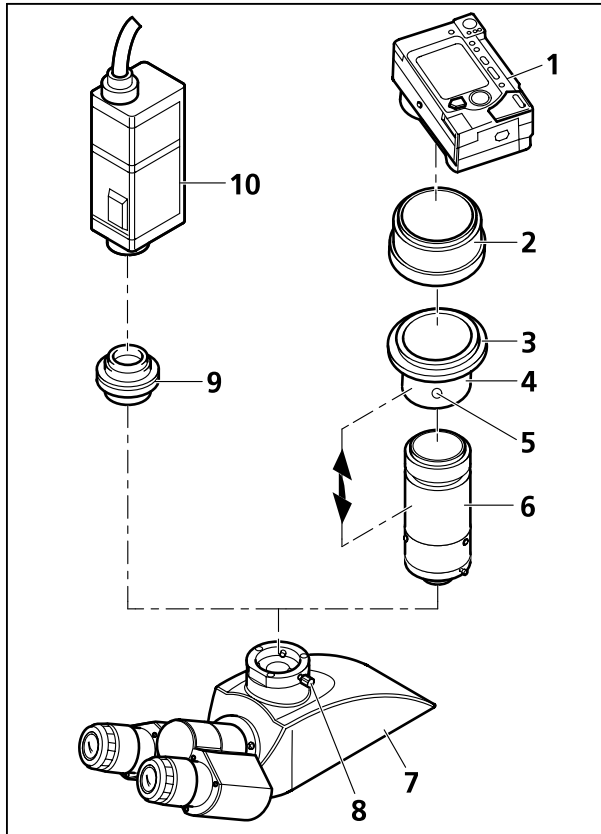

Fig. 32 Installing a camera
- First, install the phototube (Fig. 32/7), if required (see section 3.5.1).
- Loosen the clamping screw (Fig. 32/8) and remove the dust cap from the phototube.
- Sliding mount (Fig. 32/4), thread adapter ring M37/52 (Fig. 32/3) and lens mount (Fig. 32/6) are supplied pre-assembled as **Digital Camera Adapter P95 M37/52x0.75**. The opposite drawing shows this unit dismantled. Furthermore, you may unscrew the M37/52 thread adapter (Fig. 32/3) from the sliding mount (Fig. 32/4) (not shown) so that you can also mount cameras with M37 thread.
- Mount the adapter ring (Fig. 32/2) (supplied with the camera) to the camera (Fig. 32/1) (see the operating instructions of the camera).
- Screw the unit consisting of sliding mount (Fig. 32/4), thread adapter ring M37/52 (Fig. 32/3) and lens mount (Fig. 32/6) into the adapter ring (Fig. 32/2).
- Insert the camera with adapter into the phototube as far as it will go. Align it and fasten it with the clamping screw (Fig. 32/8).
- Depending on the microscope equipment or the camera used, it may be necessary to optimize the distance between camera lens and lens mount (Fig. 32/6) (see double-headed arrow). This will be necessary in particular, if it is impossible to obtain an unvignetted image in any of the zoom positions of the camera lens. To this end, adjust the camera as follows:
- Loosen the set screw (Fig. 32/5).
- Zoom the camera lens through from wide angle (W) to tele position (T).
- Retighten the set screw (Fig. 32/5).
Cameras with C-mount thread are to be connected to the phototube of the microscope by means of the camera adapter P95-C 2/3" 0.65x or P95-C 1/2" 0.5x (Fig. 32/9).
- Put the camera (Fig. 32/10) together with the corresponding camera adapter (Fig. 32/9) into the phototube as far as it will go, align it and fasten it by means of the clamping screw (Fig. 32/8).